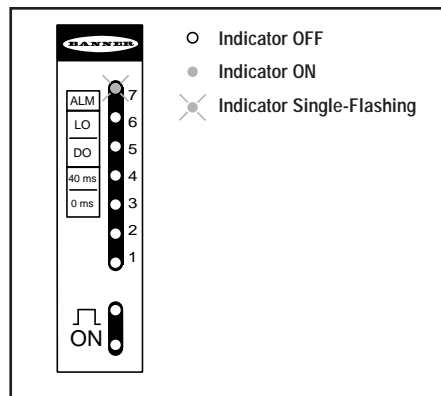

Figure 7. LED #7 flashes with the power indicator OFF; load output is overloaded.
**Display:** LED #7 flashes and green ON indicator is OFF. (Figure 7.)